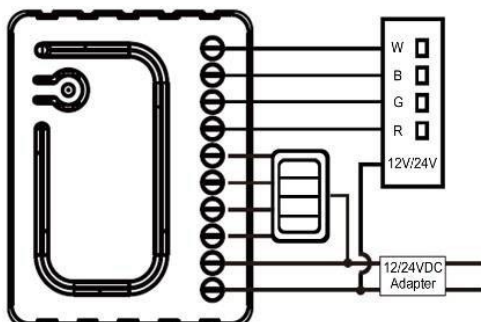
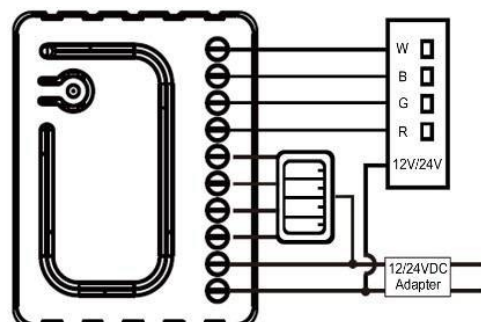

Figure 2. Connecting toggle switch
Figure 3. Connecting momentary switch
3. Connect to the R.G.B.W. Color LED Dimmer according to Figure 2, or Figure 3.